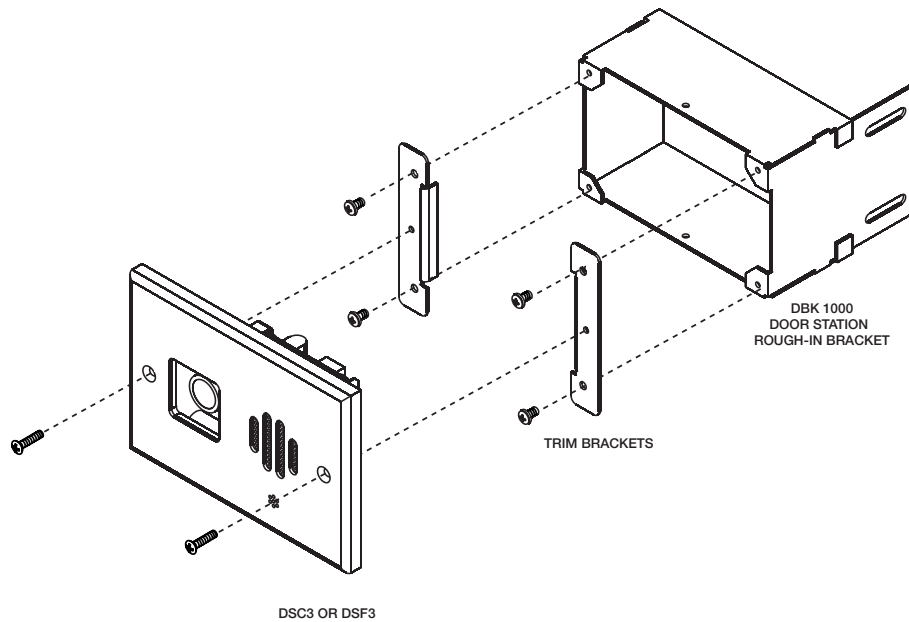

**Figure B-5: DSC3 Without VBRM**
- 3) Remove the connector from the PWR3 Power Supply (see Figure B-5).